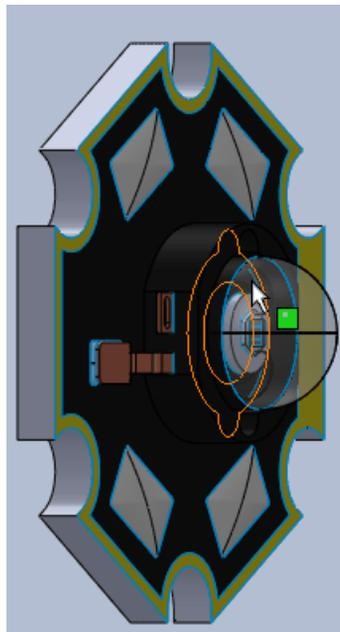

Figure 72 Face of LED highlighted in orange
- 4 Move the pointer until the face of the LED is highlighted, as in Figure 72.
- 5 When the face is highlighted in orange, click to select it. See Figure 72. The LED should move into place with the reflector.